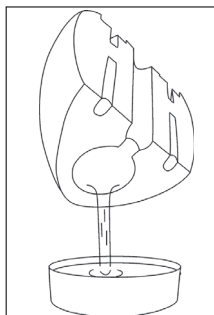

Fig 7
3. Empty the water holding it upside down as Fig.7.